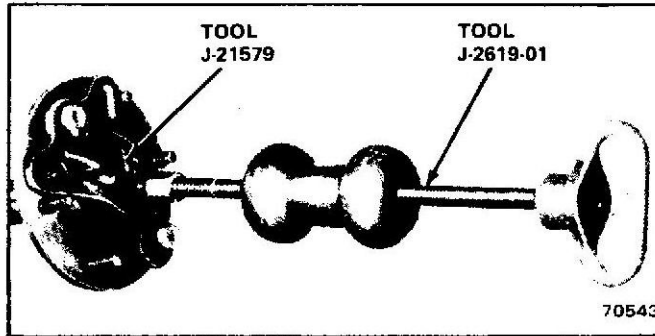

Fig. 2 Axle Shaft Removal — Cherokee-Wagoneer-J-10 Truck
(3) Remove nuts attaching brake support plates and retainers to axle tube flanges. Nuts are accessible through holes in axle shaft flanges.
(4) Remove axle shafts using Adapter Tool J-21579 and Slide Hammer J-2619-01 (See Fig. 2).